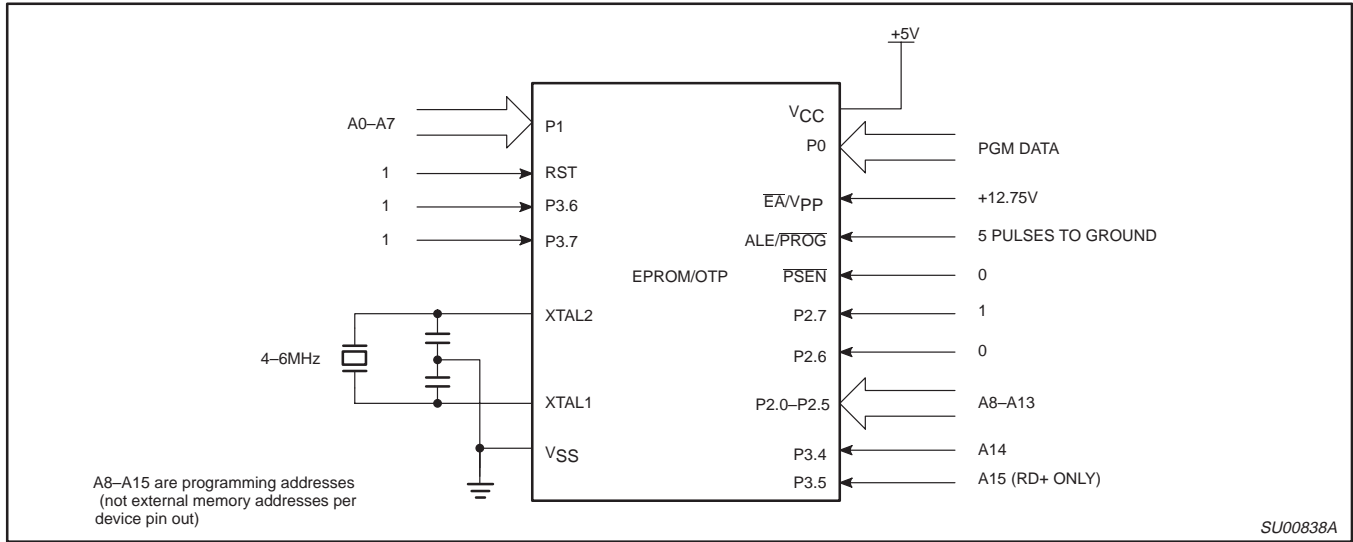
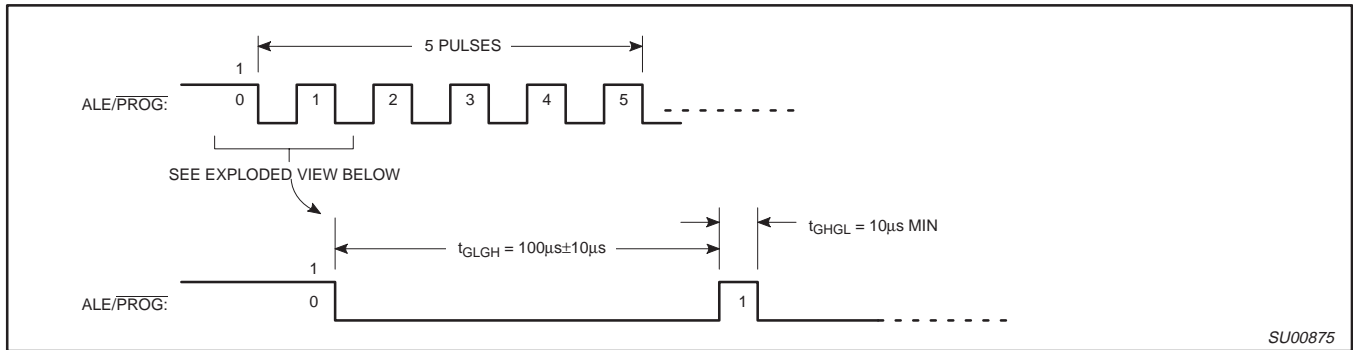
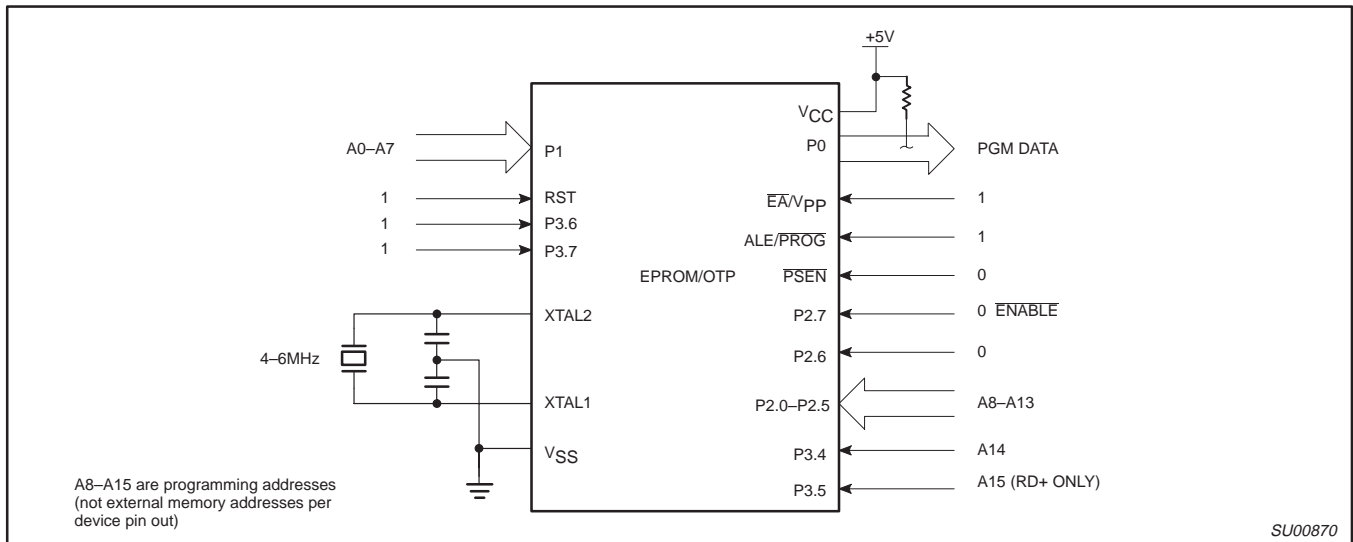

Figure 41. Programming Configuration
Figure 42. PROG Waveform
Figure 43. Program Verification
Table 9 shows the logic levels for reading the signature byte, and for programming the program memory, the encryption table, and the security bits. The circuit configuration and waveforms for quick-pulse programming are shown in Figures 41 and 42. Figure 43 shows the circuit configuration for normal program memory verification.
The setup for microcontroller quick-pulse programming is shown in Figure 41. Note that the device is running with a 4 to 6MHz oscillator. The reason the oscillator needs to be running is that the device is executing internal address and program data transfers.
The address of the EPROM location to be programmed is applied to ports 1 and 2, as shown in Figure 41. The code byte to be programmed into that location is applied to port 0. RST,  $\overline{PSEN}$  and pins of ports 2 and 3 specified in Table 9 are held at the 'Program Code Data' levels indicated in Table 9. The ALE/PROG is pulsed low 5 times as shown in Figure 42.
If security bits 2 and 3 have not been programmed, the on-chip program memory can be read out for program verification. The address of the program memory locations to be read is applied to ports 1 and 2 as shown in Figure 43. The other pins are held at the 'Verify Code Data' levels indicated in Table 9. The contents of the address location will be emitted on port 0. External pull-ups are required on port 0 for this operation.
- \* FOR PROGRAMMING CONFIGURATION SEE FIGURE 41.
FOR VERIFICATION CONDITIONS SEE FIGURE 43.